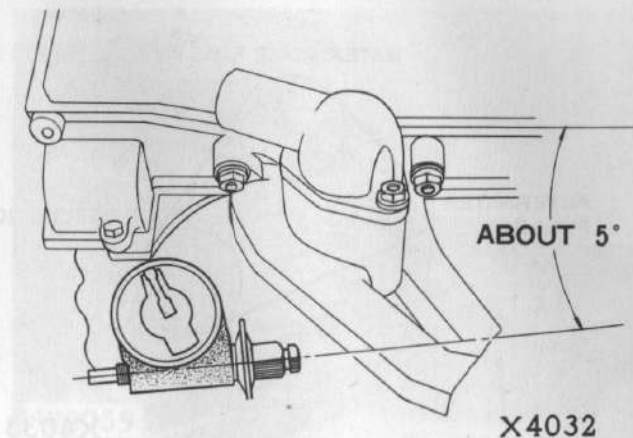

Fig. 2-116 Installing Distributor
45. Install the distributor assembly into the cylinder block placing the distributor adjuster as illustrated in figure 2-116. For details refer to Engine Electrical section paragraph Installation on page 6-18.